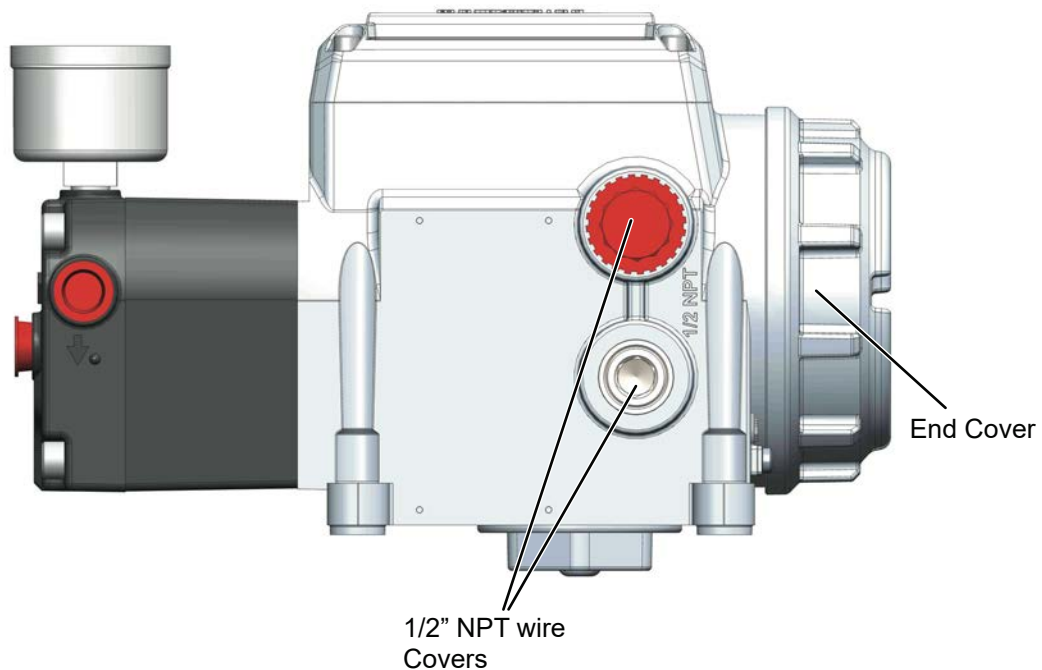

Figure 16 - SVI3 Electrical Gland/Conduit Entries
2. Unscrew the end cover and remove the desired 1/2" NPT plastic cover (Figure 16).